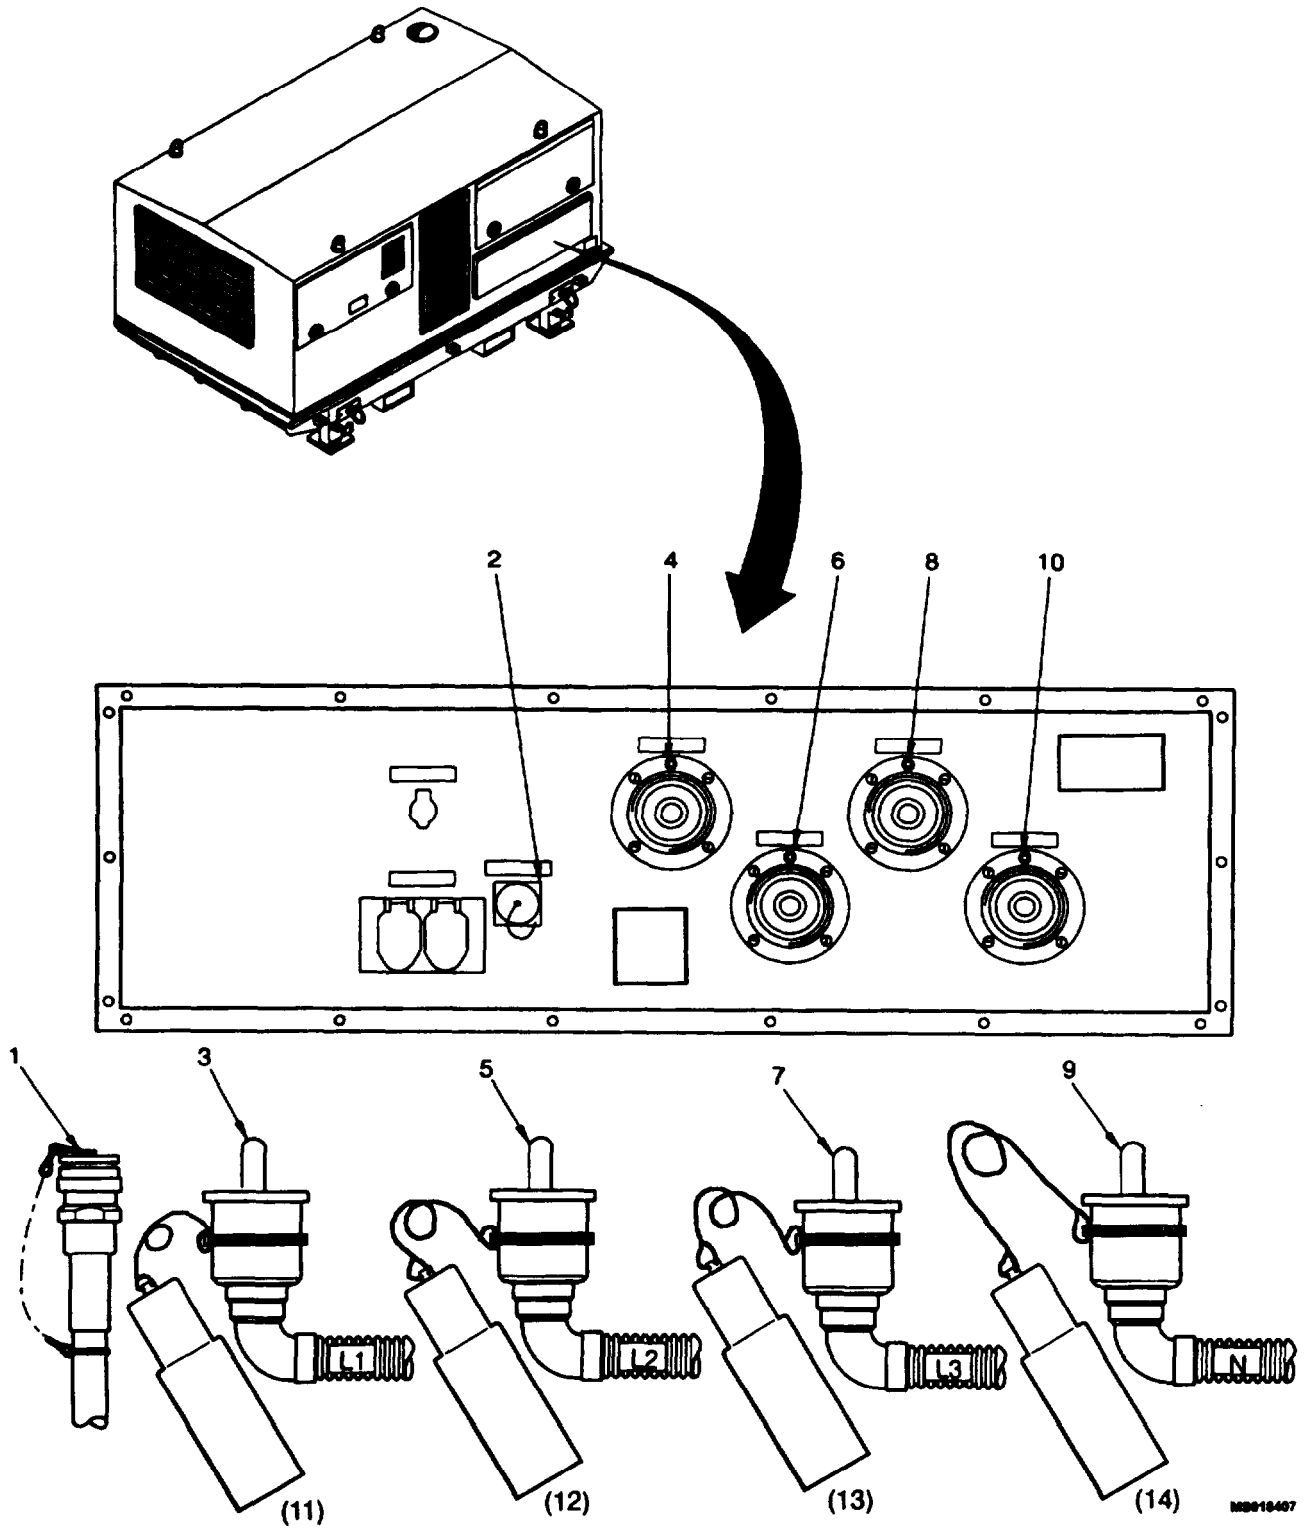

Figure 2-12 Connecting Control and Power Cables.
- (1) Remove protective covers (11), (12), (13), and (14) from power cable connectors L1, L2, L3 and N.
- (2) Insert power cable L1 (3, figure 2-12) into L1 (ØA) receptacle (4) and tighten threaded coupling.
- (3) Insert power cable L2 (5) into L2 (ØB) receptacle (6) and tighten threaded coupling.
- (4) Insert power cable L3 (7) into L3 (ØC) receptacle (8) and tighten threaded coupling.
- (5) Insert power cable N (9) into N receptacle (10) and tighten threaded coupling.